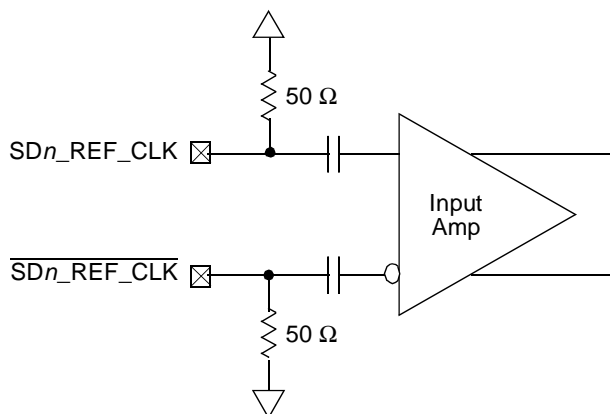

Figure 44. Receiver of SerDes Reference Clocks
Figure 44 shows a receiver reference diagram of the SerDes reference clocks. Characteristics are as follows:
- The  $SDn\_REF\_CLK$  and  $\overline{SDn\_REF\_CLK}$  are internally AC-coupled differential inputs as shown in Figure 44. Each differential clock input ( $SDn\_REF\_CLK$  or  $\overline{SDn\_REF\_CLK}$ ) has on-chip 50- $\Omega$  termination to SGND\_SRDSn (xcorevss) followed by on-chip AC-coupling.